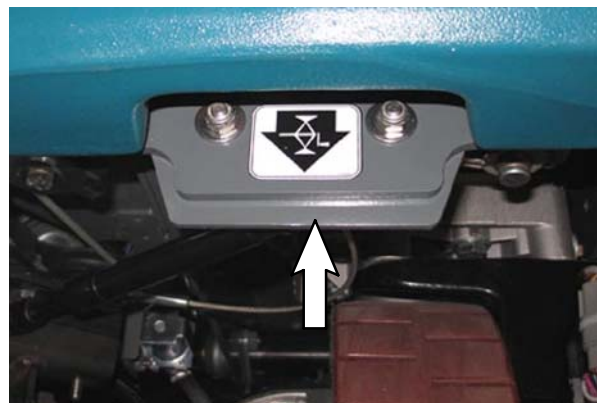

FIG. 1
4. Jack up the front end of the machine approximately 12" from the floor, position jack stands underneath the front of the machine, and lower the machine onto the jack stands. Refer to Fig. 1.